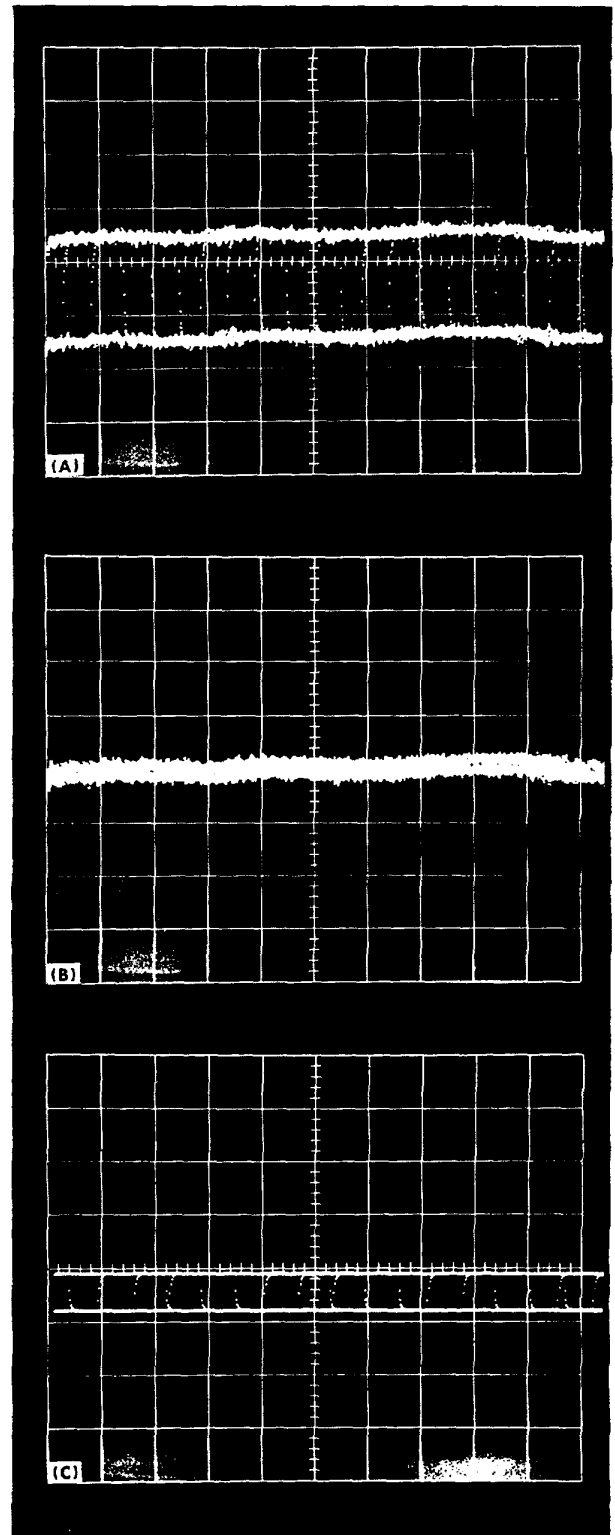

Fig. 7-5. Typical displays (SMOOTH position) showing steps used in measurements of tangential noise.
- h. Set the SMOOTH-NORMAL switch to SMOOTH, and repeat steps b through f. The tangential noise in the SMOOTH position is ≤ 1 mVolt. See Fig. 7-5.